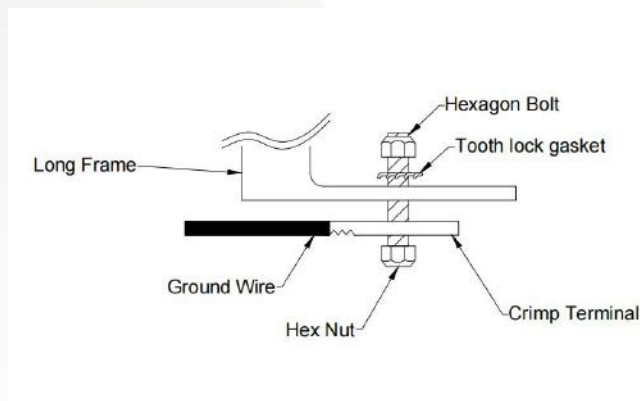

Figure 6-1 Module Grounding
5) The grounding hole on the long side frame is crimped with bolts and crimping terminals, and installed with M4 nuts. In addition, water may leak into the module frame at the ground wire installation part, so it is recommended to use a higher positioned grounding hole when grounding. (Grounding hole ϕ 5.1) Ground wire connection is shown in Figure 6-1. All conductive connection points must be firmly connected. If the grounding requirements of Solargiga cannot be met and any problems related to grounding occur, our company will not be liable.